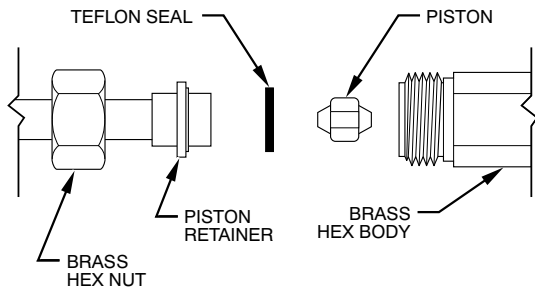

Fig. 29 – Refrigerant Flow-Control Device (For FB and FMA4P) A93530
2. Recover remaining refrigerant from tubing and coil through gage port on vapor-tube service valve. Disconnect refrigerant (liquid) tube from piston body (Fig. 29).